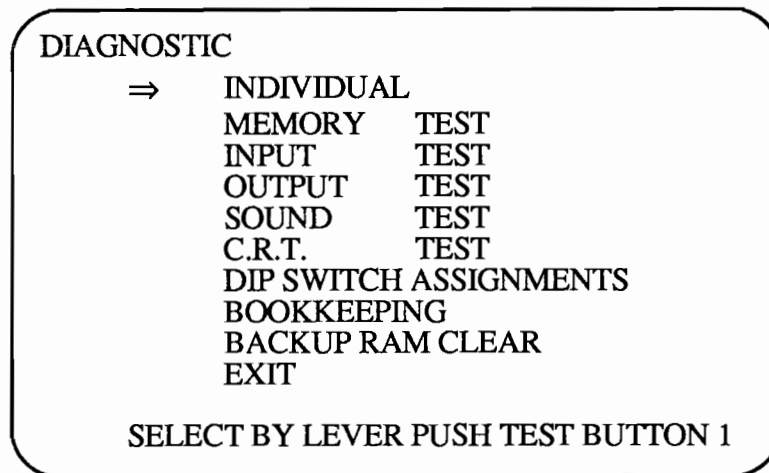

FIG. 1
- (1) Push the TEST SW button to display the test menu (Fig. 1).
- (2) Move the lever upward or downward and bring the arrow to the desired position. Press the TEST SW button again to display the desired test
- (3) When each test is finished, press the TEST SW button again to display the test menu (Fig. 1). To end the test program, bring the arrow to EXIT and push the TEST SW button.
**INDIVIDUAL:** Indicates only the item which the arrow points to. Push the TEST SW button again to display the test menu (Fig. 1).
**CONTINUE:** After displaying the item which the arrow points to, push the TEST SW button again to proceed to the following test in the order as indicated in the Fig. 1 test menu.